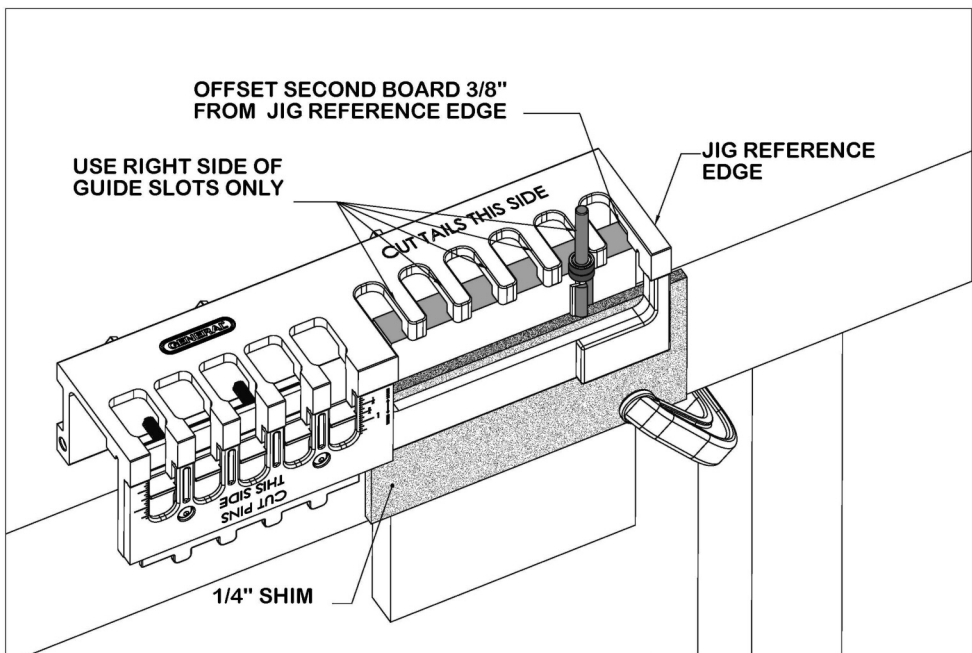

FIG. 21
- For the joining board, clamp it in the jig with its edge offset $\frac{3}{8}$ in. in from the right hand edge of the jig. Make entry and exit cuts using the right side of the guide slot only (FIG. 21).